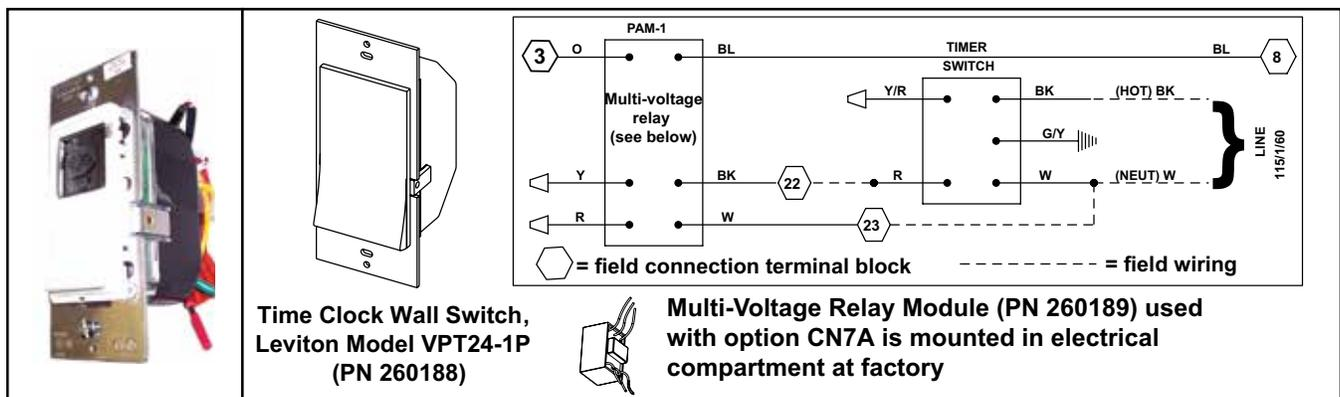

Figure 23. Time Clock Wall Switch (Option CN7A) with Wiring Connections
The compact wall-mounted time clock (see Figure 23) with manual ON/OFF override will start or stop the unit. The 24-hour time clock schedule allows flexible weekday and weekend start/stop times with a convenient daylight savings update. A rechargeable battery maintains the programming in a temporary power outage. The unit requires a two-wire, 120V power supply external to the ventilation unit. As shown in the wiring diagram, a switch relay converts the time clock's 120V output to a set of dry contacts. Two dry contact wires are terminated to controller terminals 3 and 8, which activate the unit when closed. Install the time clock wall switch as follows:
2. Provide power to time clock and run control wires and make connections (refer to wiring diagram and Figure 23).